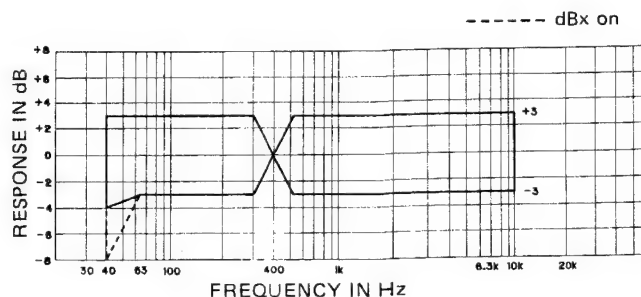

Fig. 10-10 Overall Frequency Response
- 3) Vary the input signal frequency over a range of 40 Hz to 10 kHz and record the frequencies, and then playback the signals just recorded. The playback output levels should be as shown in Fig. 10-10.